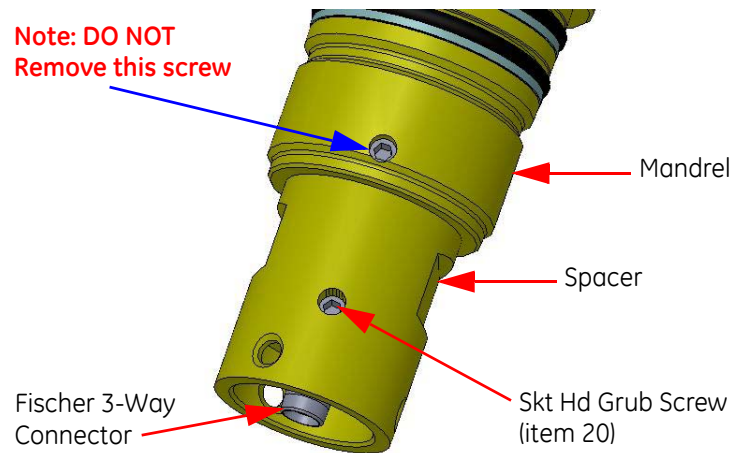

Figure 5-16 Identification of the security screw for the Fischer 3-Way Connector
- 6 With reference to **Figure 5-16**, install the Skt Hd Grub Screw (**item 20**) to secure the Fischer 3-Way Connector in the Spacer.
- 7 When required, install the In-Line Electronics Chassis Assembly (**item 2, 416026**). Refer to **Section 5.3.2, Installation**.
- 8 With the Sensor Section and the Electronics Section connected, use a multimeter to check continuity between the Lower Connector Assembly and the Monoconn Connector (**item 15, 416324**) at the upper end of the Electronics Chassis Assembly (**item 2, 416026**).